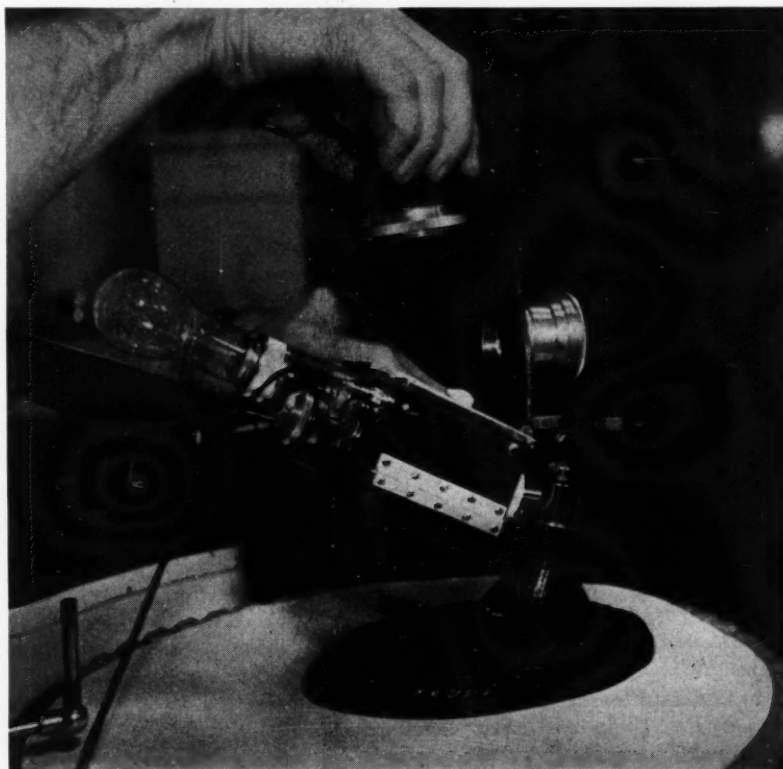

Fig. 3—Ground glass screen pushed up and camera back brought into position.
4. When this is accomplished, a) the aperture is closed down to $f/18$; b) the filter placed over the lens; c) the shutter speed set according to the exposure data to be given; d) the ground glass screen is pushed up, and e) the camera back is brought into position (Fig. 3).